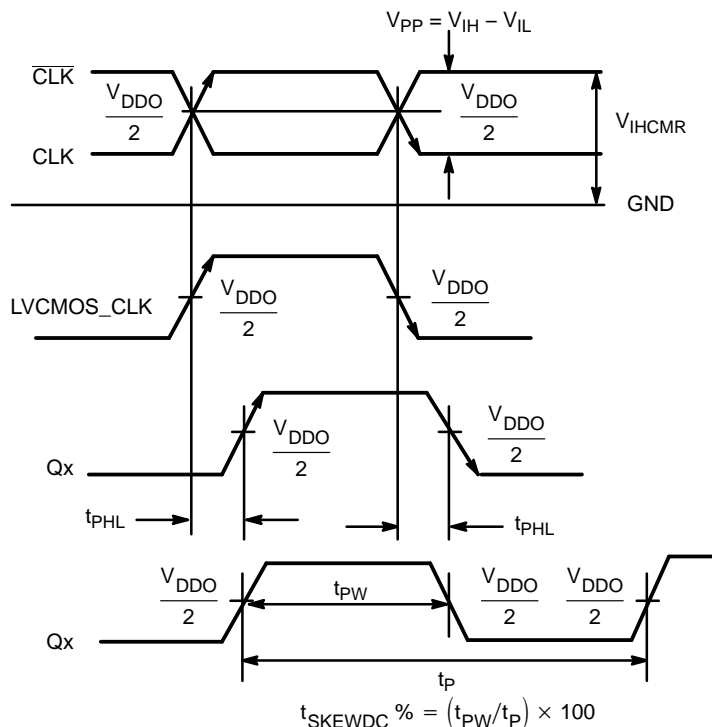

Figure 4. AC Reference Measurement
5. Outputs loaded with $50\ \Omega$ to V_{TT} ($V_{DDO}/2$); see Figure 5. CLOCK input with 50% duty cycle. Measured at CLK/ $\overline{\text{CLK}}$ crosspoint to Qx $V_{DDO}/2$, CLK $V_{DDO}/2$ to Qx $V_{DDO}/2$; see Figure 4.